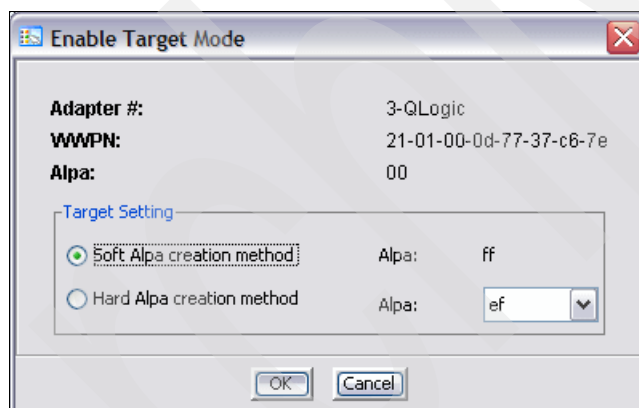

Figure 5-33 Enable Target Mode window
2. In the Enable Target Mode window (Figure 5-33), select the **Soft Alpa creation method** option and click **OK** to enable the target mode.